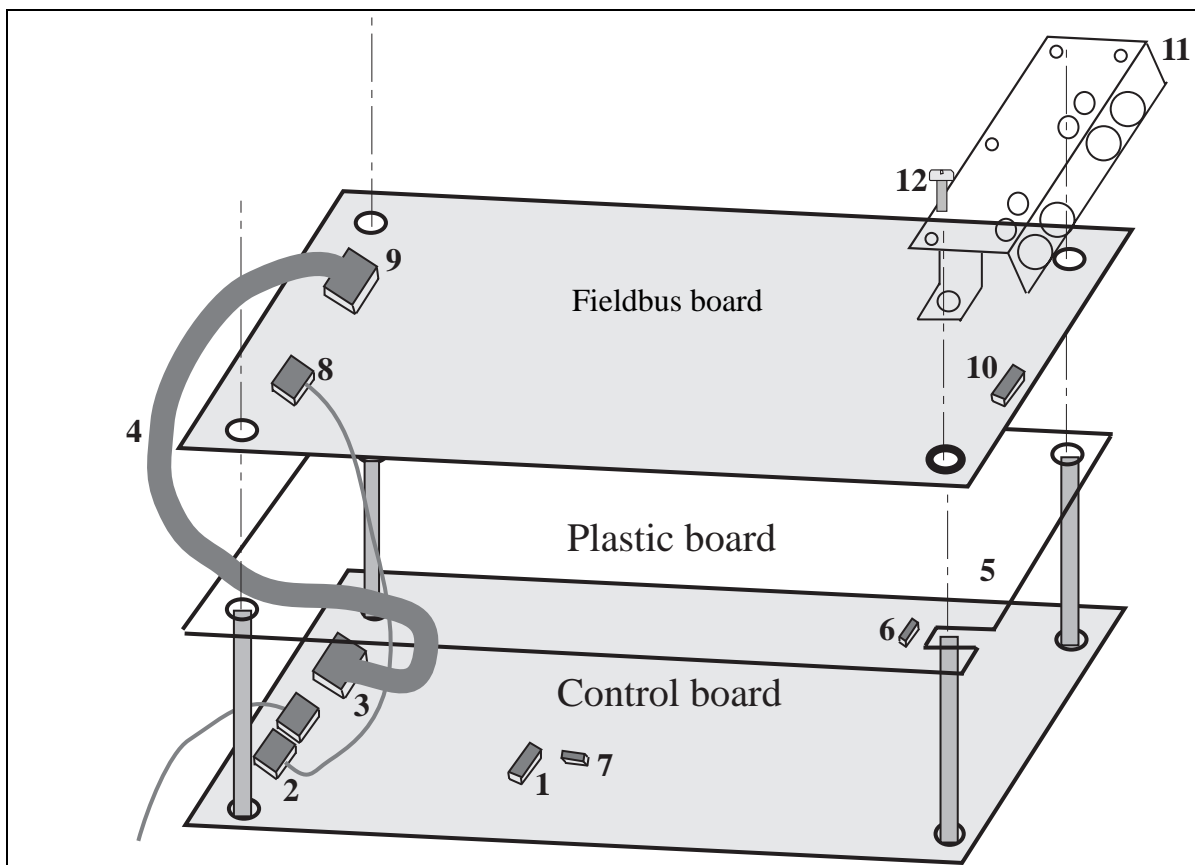

Figure 4-1. Fieldbus board installed into the control board
Before starting the installation, carefully read the safety instructions in the "SV9000 Drive User's Manual" chapter "SAFETY".. Check that you have received all the Fieldbus board parts: Fieldbus board, plastic board, power cable (black terminal), data cable (blue terminal) and grounding screw. Fieldbus board can be installed in the existing place of an option board inside the drive (see figure 4-1).
H	If the packet includes the cable cover (11), install it into position as shown in figure 4-1.